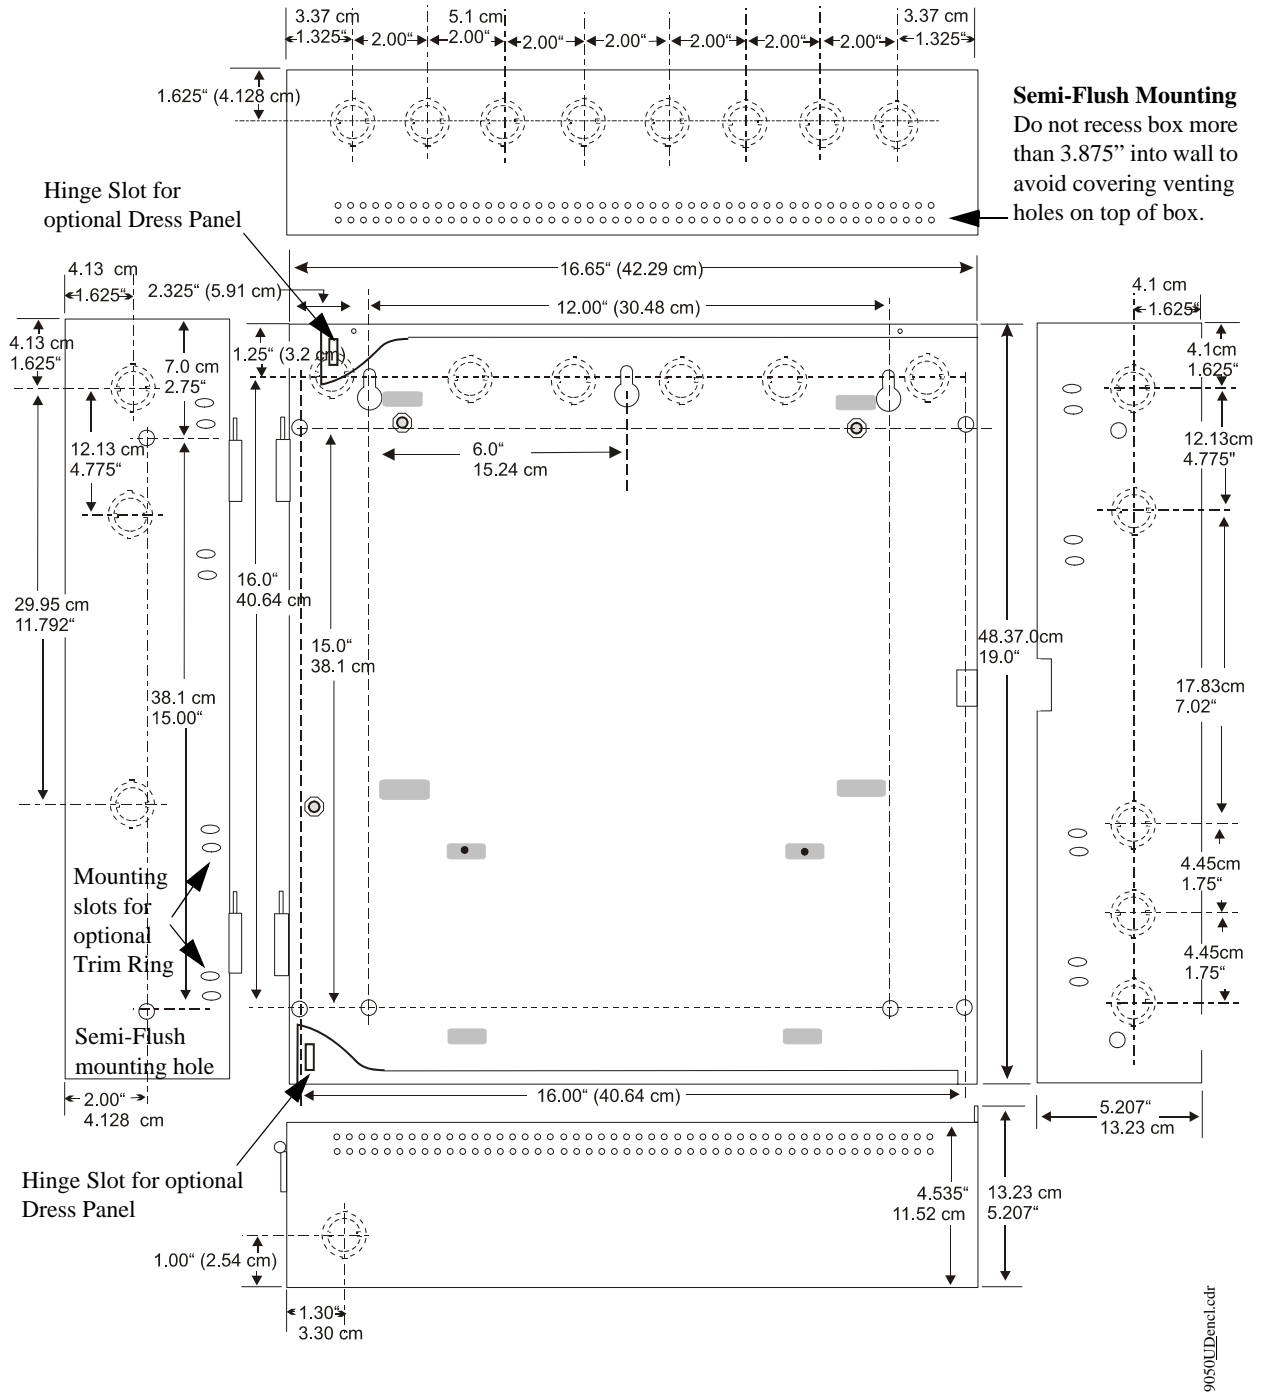

Figure 2.2 Cabinet Dimensions
- ✓ Mark and predrill hole in the wall for the center top keyhole mounting bolt using the dimensions illustrated in Figure 2.2 on page 18